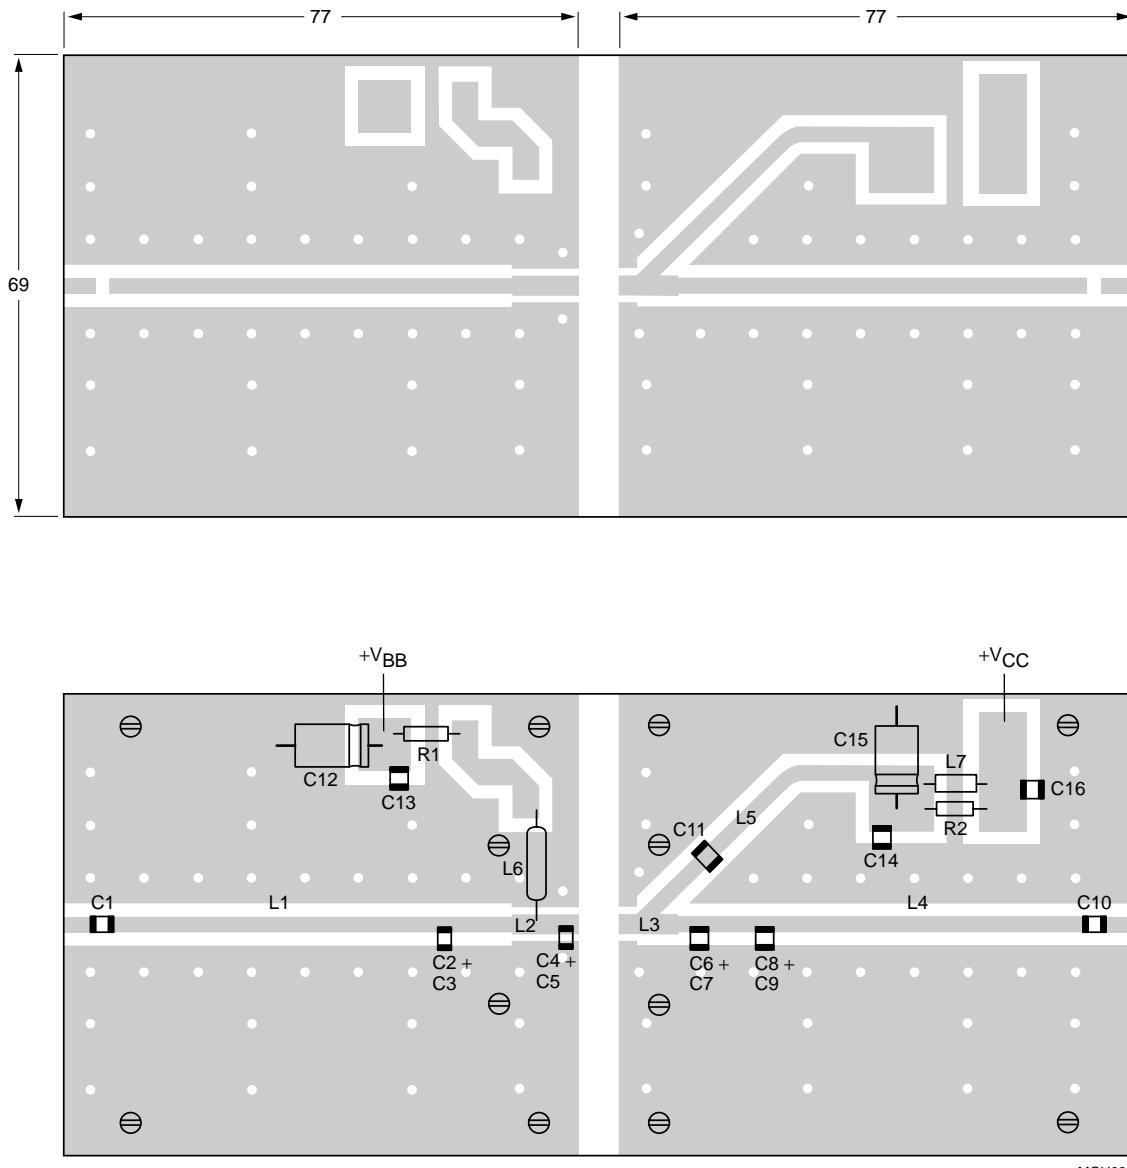

Fig.3 Component layout of the BLW898 amplifier.
- 4.2 Positioning of the matching capacitors (see Figs 3 and 4)
4.2 Positioning of the matching capacitors (see Figs 3 and 4)
Figure 3 gives gain compression (CW) versus frequency.